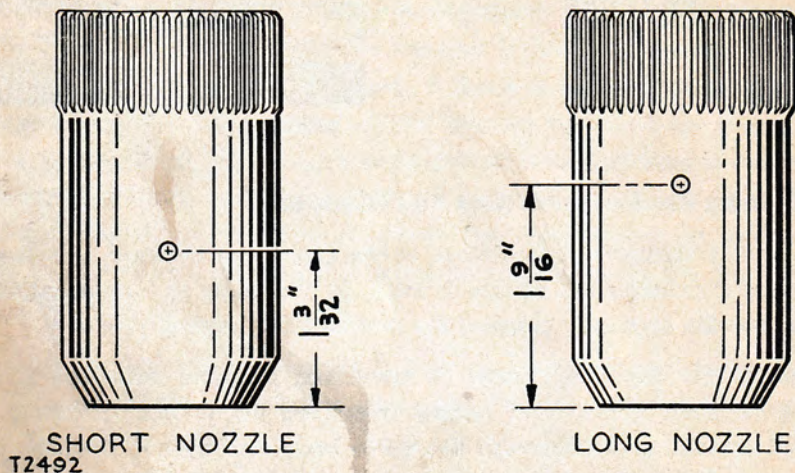

FIGURE 20—"LONG NOZZLE" VALVE IDENTIFICATION
**"LONG NOZZLE" VALVES**—The first flat seated fuel valves had a spray valve assembly with a nozzle 1/2" longer than current valves. No parts are serviced to recondition these so-called "long nozzle" valves. They are readily identified by the position of the dowel pin, as shown in fig. 20.